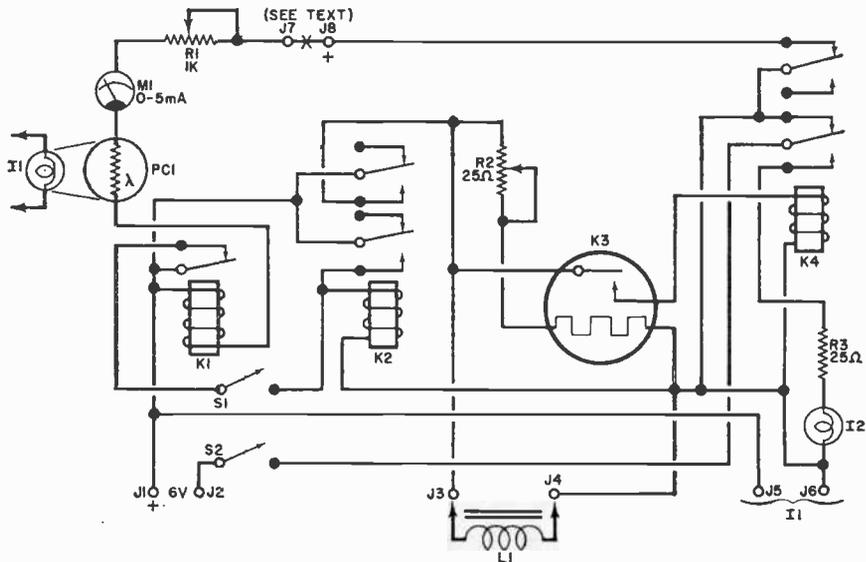

Fig. 1. Once system is tripped, relay operation is in numerical sequence. As K2 closes, it pulses shutter solenoid; K2 provides the power-disconnect feature.
Fig. 1. The probe is a simple two-transistor lamp driver arrangement. With no signal applied, the lamp is lit. When a positive voltage is applied, to the tip, the lamp goes out.
**Probe.** The electronic part of the probe (Fig. 1) is assembled to fit inside a plastic tube whose inside diameter is just large enough to hold the pilot lamp, I1. The author used the empty plastic case of a large cheap felt-tip marking pen.
**How It Works.** Power is applied to the Electronic Shutter Control circuit through *J1* and *J2* in Fig. 1. With both *S1* and *S2* closed, the beam from control light *I1* is directed at *PC1*, causing the resistance of the photocell to reduce enough to allow *K1* to be energized. When *K1* picks up, its normally closed contacts open, depriving *K2* and subsequent circuits of power.